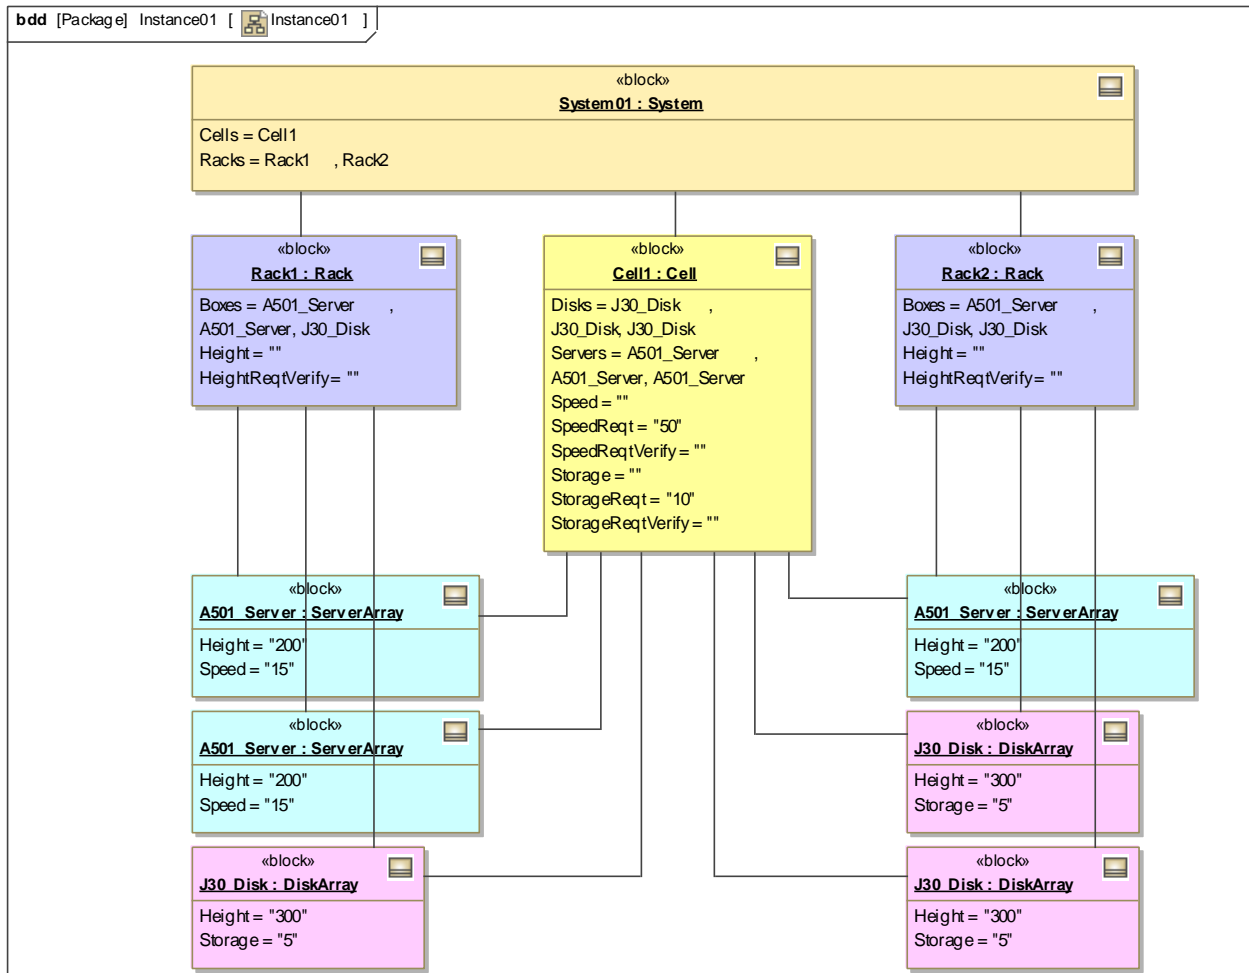

Figure 9.7 Instance01 diagram containing one Cell spread over two Racks
- e. Activate the Height and Speed slots in **J30_Disk** and assign values of 300 (mm) and 5 (GB).
10. Create an instance of a system configuration comprised of one computer cell spread over two racks. See Figure 9.7.
- g. Create the links as shown in Figure 9.7. Note that each component instance is linked to one rack (where it is physically located) and one cell (where it is electronically part of a specific computer system).